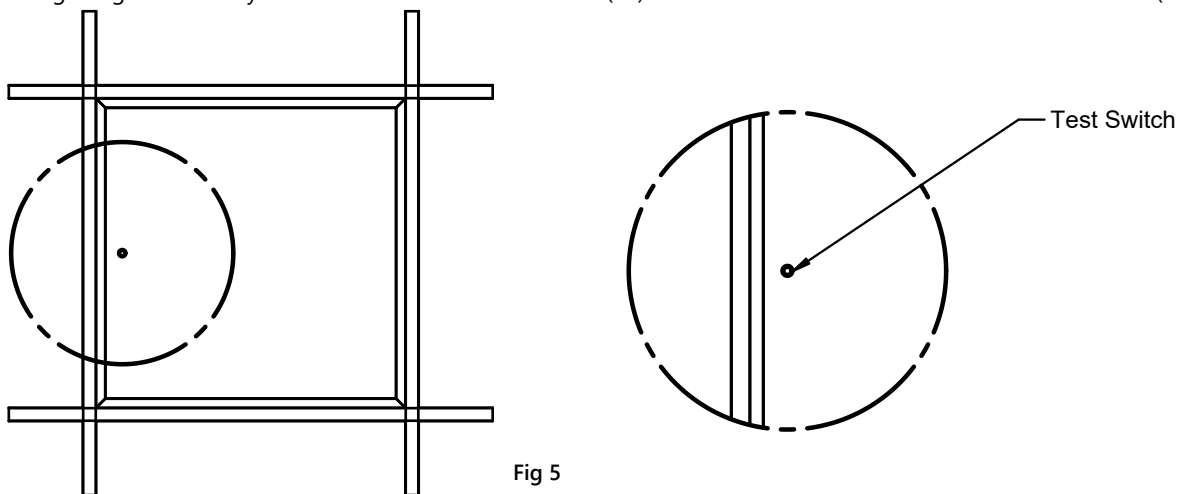

Fig 5
EM Option having integrated battery installed will have the test switch (TS) mounted onto the Lens and accessible as shown (Fig 5).